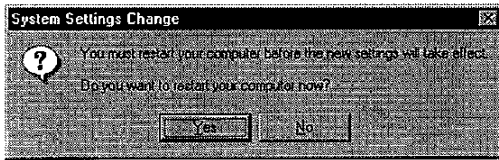

Figure 10. System Settings Change
step8. The *System Settings Change* dialog box will ask you if you want to restart your computer (**Figure 10**). Remove the floppy disk and click *Yes*